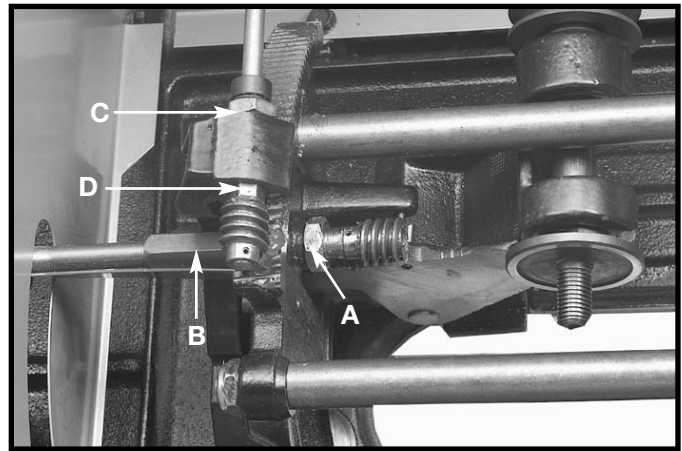

Fig. 52
2. **ADJUSTING BLADE RAISING MECHANISM** - Loosen locknut (A) Fig. 52, and turn eccentric sleeve (B) until all play is removed in mechanism and **tighten locknut (A)**.
3. **ADJUSTING BLADE TILTING MECHANISM** - Loosen locknut (C) Fig. 52, and turn eccentric (D) until all play is removed in mechanism and **tighten locknut (C)**.